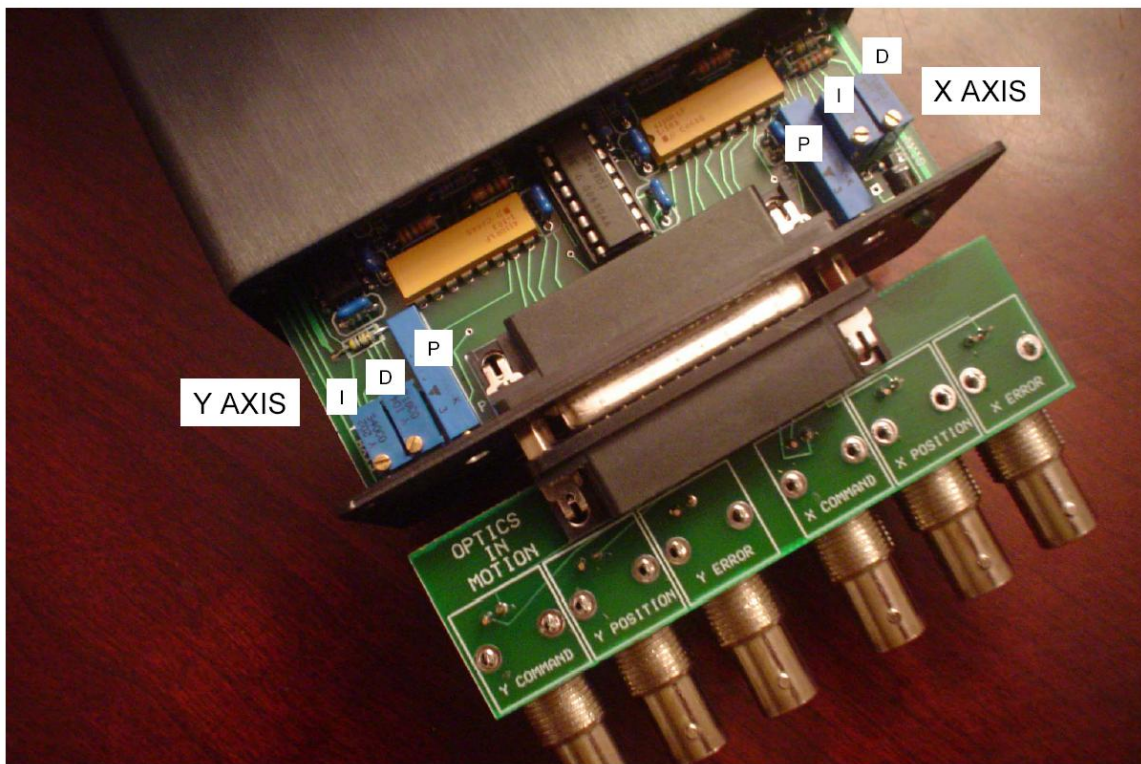

Figure 1: Adjustable PID
The mirror controller electronics are housed in a remote enclosure connected to the FSM via a 6 foot cable. Mirror commands are input to the controller through a 25 socket D sub-miniature connector. The commands are differential signals representing the x and y mirror positions, scaled to the +/- 10 volt range. For example, the X- command can be grounded and the X+ command can go from +10volts to -10volts. The input impedance of the command signals is 10K ohms. Monitor signals are provided for the actual mirror positions, error signals (feedback error between commanded position and actual position). The PID gain of the controller may be set from the controller front panel potentiometers (See fig. 1)
The potentiometers that are accessible from the controller front panel set the mirror proportional gain (P), CCW is increasing gain. The other adjustment potentiometers are mounted to the controller board, to access these pots the front 4 cover screws must be removed. The photo in figure 1 shows the front panel slid forward to allow access to the integral (I) and derivative (D) gain potentiometers (CCW to increase gain on both these pots). The controller card is attached to another card via a ribbon cable which is hidden inside the controller box. The mirror can be driven while this card is pulled forward, allowing the user to optimize the PID values for a given step requirement while